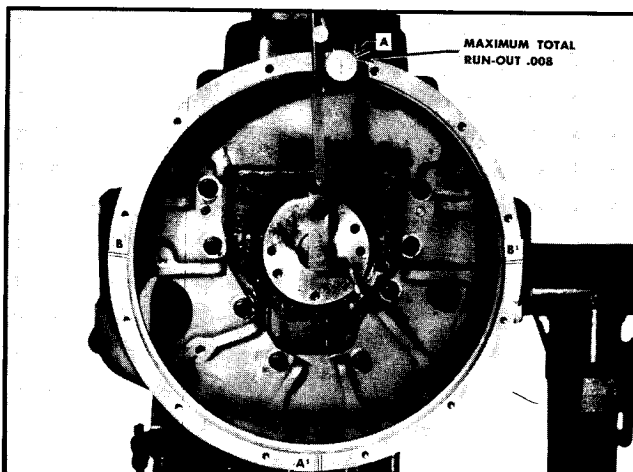

Fig. 12-59. Indicating face of flywheel housing
ing. Make four chalk marks at points A, A¹, B and B¹ as shown in Fig. 12-59. Take readings at the four points.
1. Shift the gauge to indicate the housing face. See Fig. 12-59. Turn the crankshaft to get readings at various points on the face of the housing. Each time before taking a reading, use a pinch bar between a main bearing cap and crankshaft throw to take up crankshaft end clearance. Take up end clearance the same direction each time. The readings taken at various points must not vary more than .008.